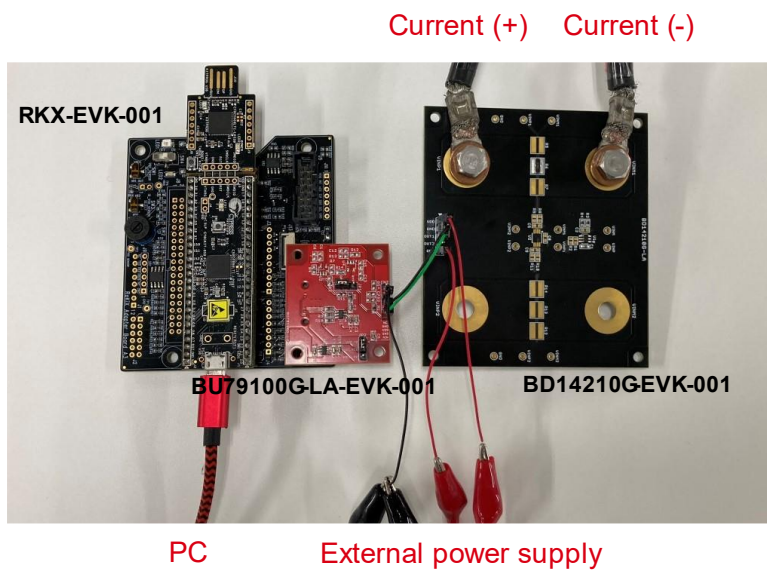

Figure 6. Connection of RKX-EVK-001 and BU79100G-LA-EVK-001
3. Connect BU79100G-LA-EVK-001 to RKX-EVK-001 and connect RKX-EVK-001 to PC using USB cable. (Figure 6)